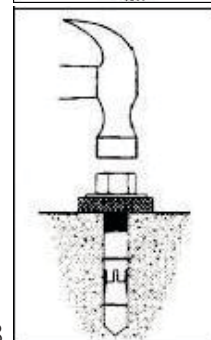

fig.18
7. Secure the anchor bolts in the holes using a light hammer (without inserting the anchor bolts' center expansion screws, which will be secured once leveling is complete), as shown in Fig. 18.